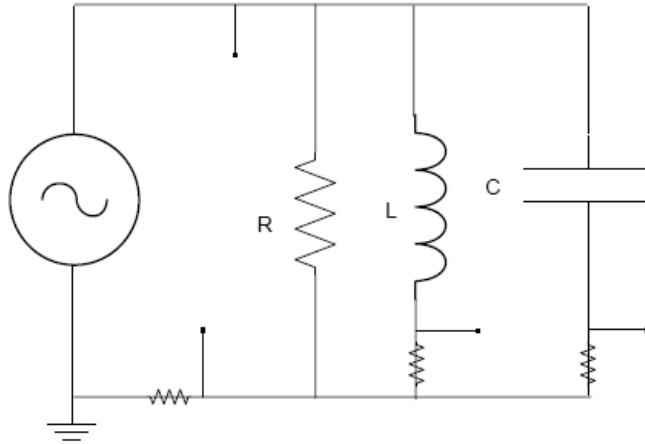

Fig. 3. The experimental parallel RLC circuit. $R= 100 \Omega$, $L= 10 \text{ mH}$, $C= 1 \mu\text{F}$.
5. Construct the circuit of Figure 3. Maintain the settings of the source. Measure the magnitude of the supply voltage. Measure the magnitude and phase (with respect to the supply voltage) of the inductor current, the capacitor current and the supply current.